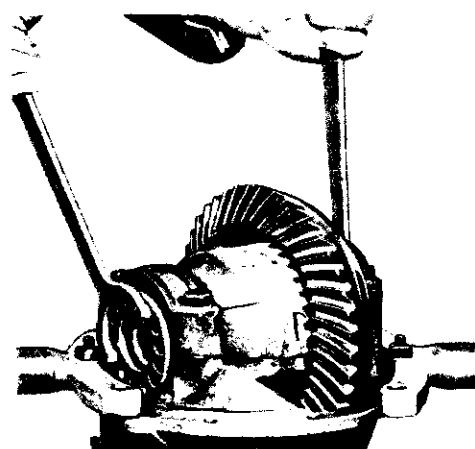

Fig. 32—Adjusting Differential Bearings
(1) Holding differential and ring gear assembly with bearing cups on respective bearing cones, carefully install the assembly into carrier.
(2) Install differential bearing caps, on respective sides, making certain that identification marks on caps correspond with those on carrier. Install cap bolts and tighten bolts of each cap by hand.
(3) Install differential bearing adjusters, on respective sides, making certain that identification marks correspond. Screw adjuster in by hand. No attempt should be made to apply any excessive pressure at this time.
(4) Using spanner wrenches Tool C-406A to square bearing cups with bearing cone, turn adjusters "IN" until cups are properly square with bearings and end play is eliminated with some backlash existing between the drive gear and pinion (Fig. 32).
(5) Tighten one differential bearing cap bolt on each side to 85-90 foot-pounds.